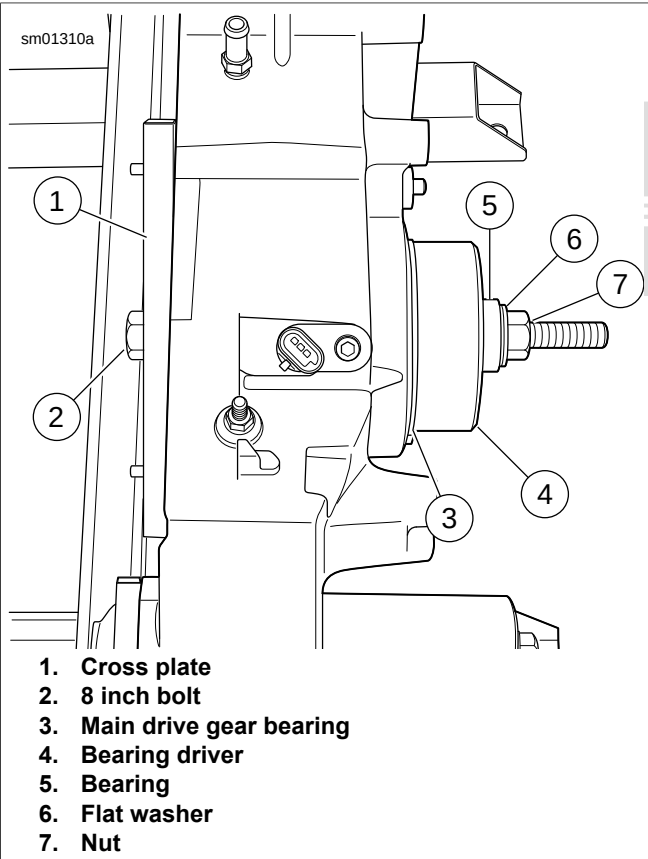

Figure 5-75. Installing Main Drive Gear Bearing: XL Models
2. See Figure 5-75. Insert 8 INCH BOLT (Part No. HD-35316-4A) (2) through cross plate (1) and main drive gear bearing bore.
3. Place main drive gear bearing (3), BEARING DRIVER (Part No. HD-35316-8) (4), BEARING (5), FLAT WASHER (6) and NUT (7) over end of bolt.